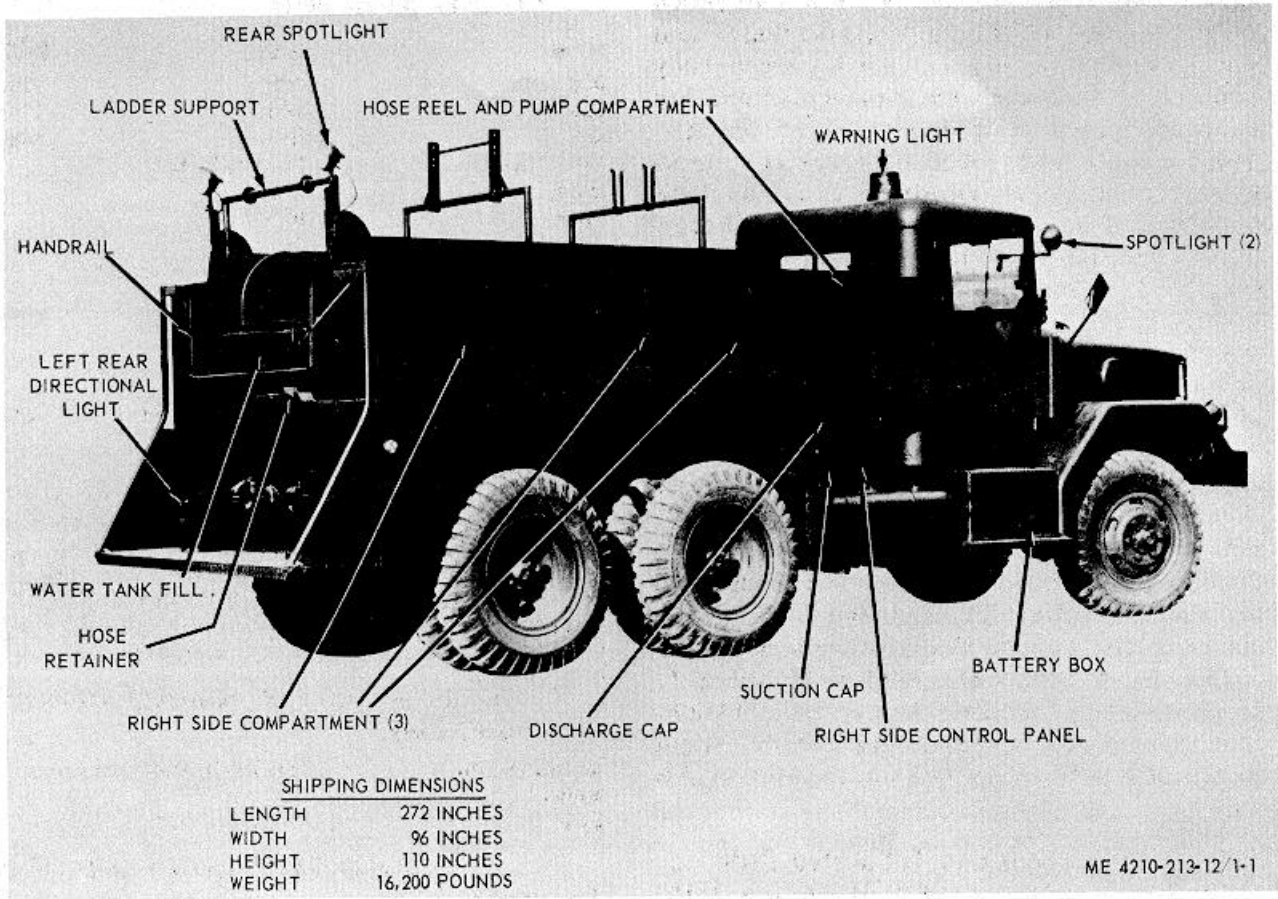

Figure 1-1. Fire truck, right-rear, three-quarter view with shipping dimensions
a. *General.* The Class 530B Fire Truck (fig. 1-1 and 1-2) is the Army's standard tactical type fire apparatus and is designed for combating structural, brush and aircraft crash fires in areas of combat operations. The fire fighting apparatus is mounted on the Army's standard 21/2 Ton, 6x6, Truck Chassis, Model M45A2. The truck is powered by a multifuel engine with a five speed forward and one reverse speed transmission. The truck is designed for use over all types of roads, highways and cross-country terrain. For additional information covering Model M45A2 Truck Chassis, refer to TM 9-2320-209-10 and -20. The Fire Truck is equipped with a